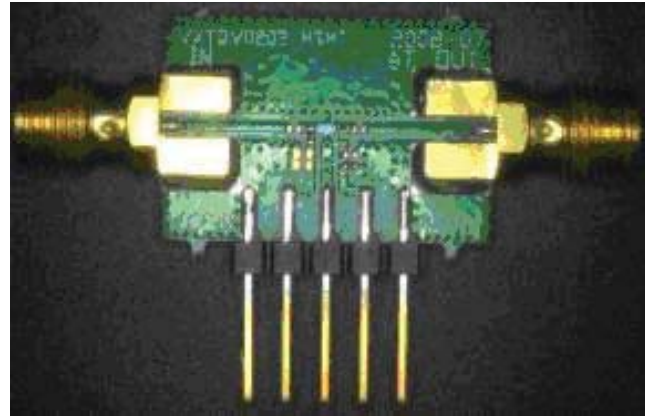

Figure 20. Evaluation/Test Board (available to qualified customer request)
3. Over temp data taken on a test fixture (Figure 20) without de-embedding